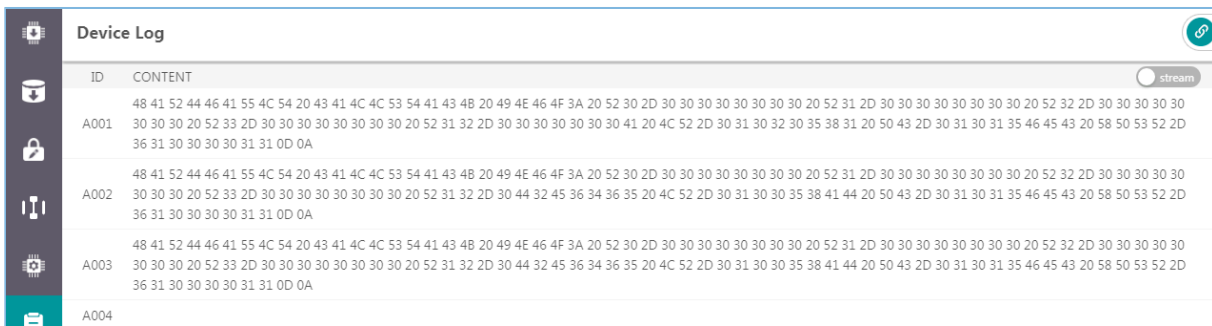

Figure 3-46 Device logs in byte streams
- : The device logs are displayed by byte stream as shown in Figure 3-46.